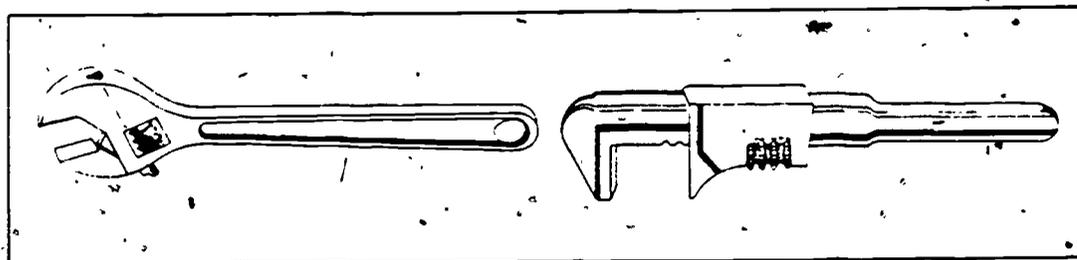

Figure 3-3 Adjustable jaw wrenches.
*Adjustable jaw wrenches.* Adjustable jaw wrenches, like those shown in figure 3-3, have jaws that can be adjusted to fit square stock or the flat surfaces of a bolthead or nut. These wrenches should always be snugly adjusted to fit the work in order to prevent slippage and injury to the operator. An improperly fitted wrench not only rounds off the corners of a bolt or nut but also strains the jaws of the wrench. Adjustable jaw wrenches should be used as shown in figure 3-4. Undue strain on the wrenches is likely to crack the movable jaws or damage the adjusting screw. Keep the wrench clean and the movable parts oiled.